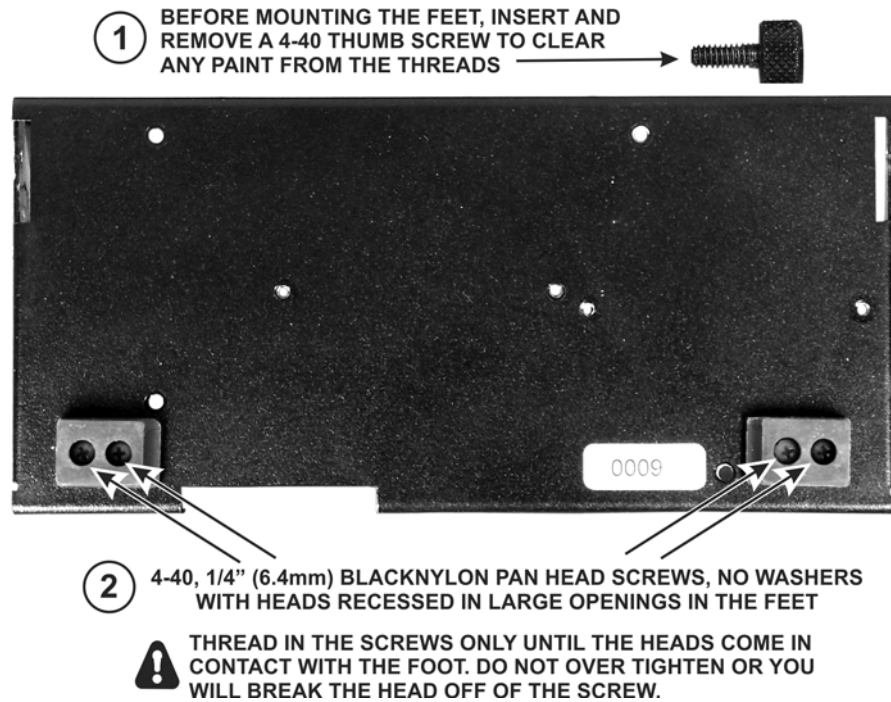

Figure 29. Mounting Rubber Feet on Bottom Cover.
- Mount two of the four rubber feet on the bottom cover using **nylon** screws as shown in Figure 29. First clear any paint out of the threads with one of the black 4-40 thumbscrews. Orient the feet so that the heads of the screws are recessed in the large openings.